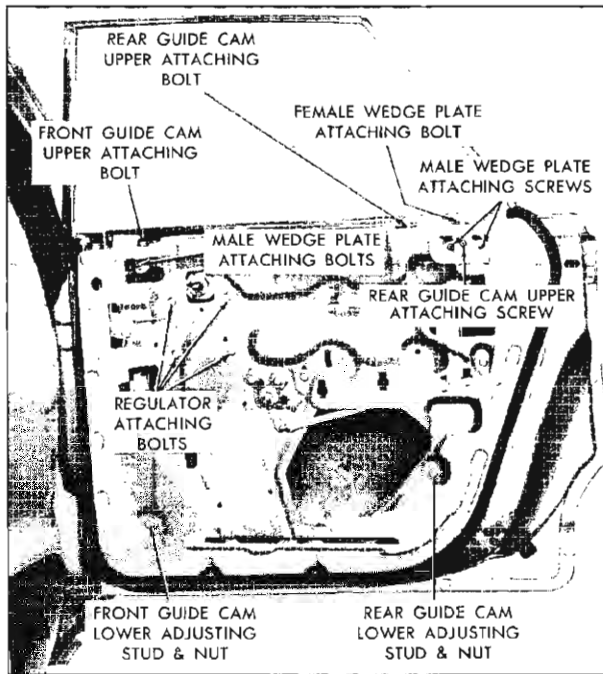

Fig. 3-42 Window Regulator
4. On 39 styles, equipped with electric window regulators, loosen rear guide cam upper attaching screw and bolt and remove lower adjusting stud and nut. This is necessary to move lower section of rear guide cam rearward far enough to permit removal of electric window regulator and motor assembly. Figure 3-42 shows the rear guide cam attachments and is typical of rear guide cams equipped with power windows.
5. Remove regulator attaching bolts (four), disengage balance arm from inner panel cam and remove regulator assembly through large access hole (see Figure 3-42).
2. Through inner panel access hole remove front guide cam upper attaching screw(s) and front guide cam lower adjusting stud and nut (Fig. 3-42).
2. Raise door window. Through inner panel access hole remove front guide cam upper attaching bolt (Fig. 3-42).
3. At door hinge pillar facing, remove two (2) screws securing guide cam support and remove support through access hole.